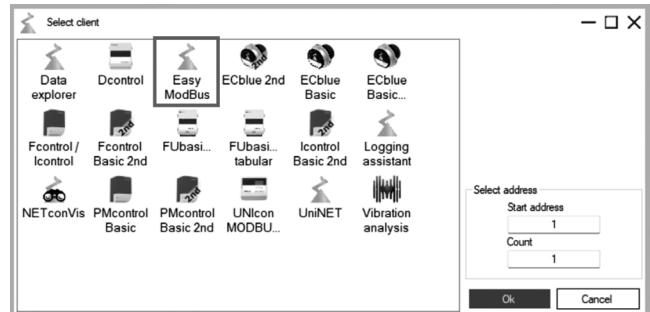

Fig. 8 — ZA — Easy Modbus Selection
5. Select **Easy Modbus** (see Fig. 8).